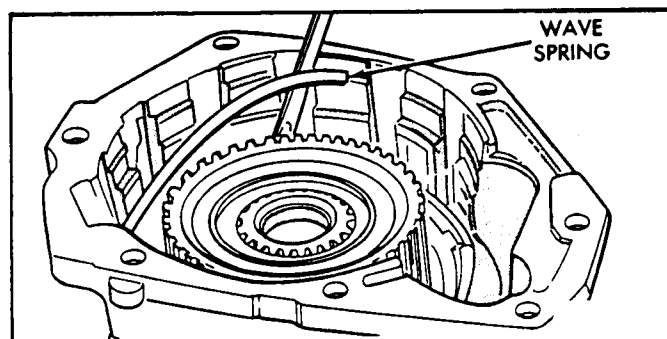

Figure 4
4. Remove the overdrive clutch WAVE snap ring, as shown in Figure 4.